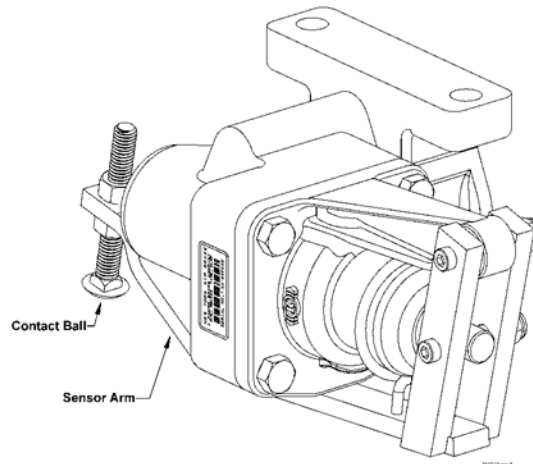

Figure 36: ELRP Sensor Portion
- 5.13 ELRP SENSOR VALVE, Fig 36**